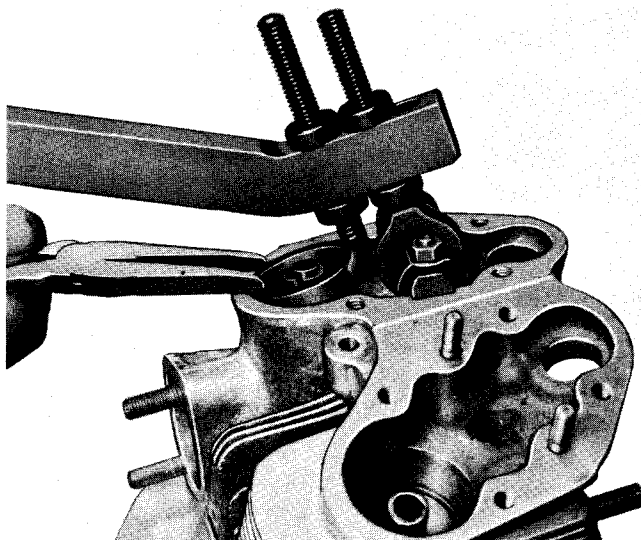

Figure 7-1. Compressing Valve Springs.
- b. Temporarily install rocker shaft (11) and secure with attaching parts (10, 9, 8). Install retainers (40), two sets of springs (38, 39), intake valve seat (36) and exhaust valve rotator (37). Compress springs (see Figure 7-1) and install keys (35). Make certain keys are properly seated before releasing pressure on springs. Remove cylinder from fixture and stand it upright on a bench. Strike each valve stem sharply with a rawhide mallet to seat the valve stem keys.